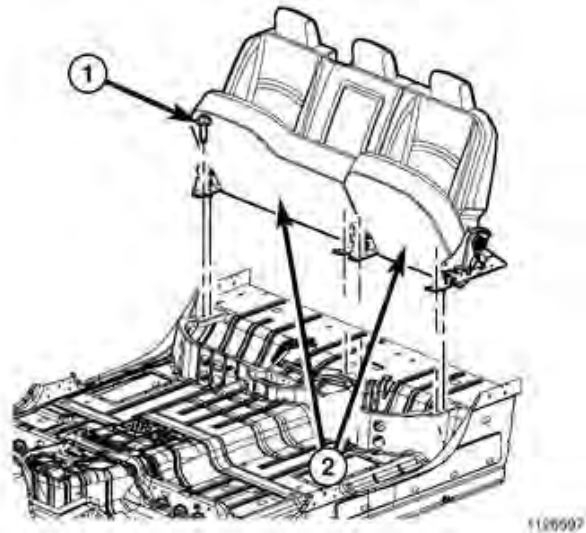

Figure 21 – Rear Seat Front Fasteners
13. Remove all the rear seat front bolts (1) (Figure 21).